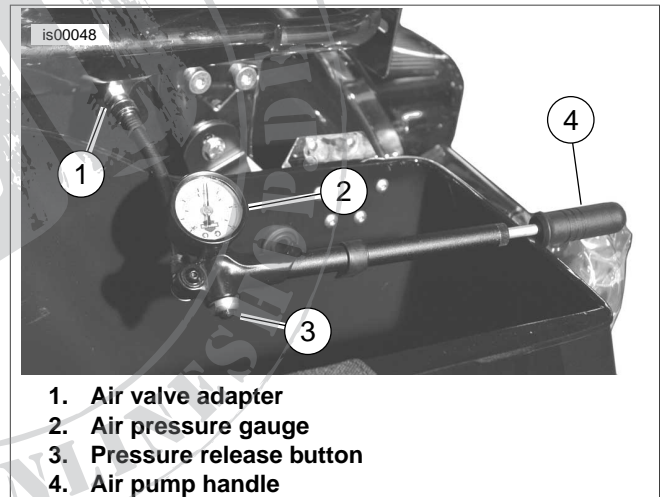

Figure 1. Touring Air Suspension Kit
1. Remove cap from air suspension air valve and connect pump by threading the air valve adapter (1) on the pump as shown in Figure 1. When adapter is threaded properly, the current air pressure in the system will be indicated on the gauge of the pump.